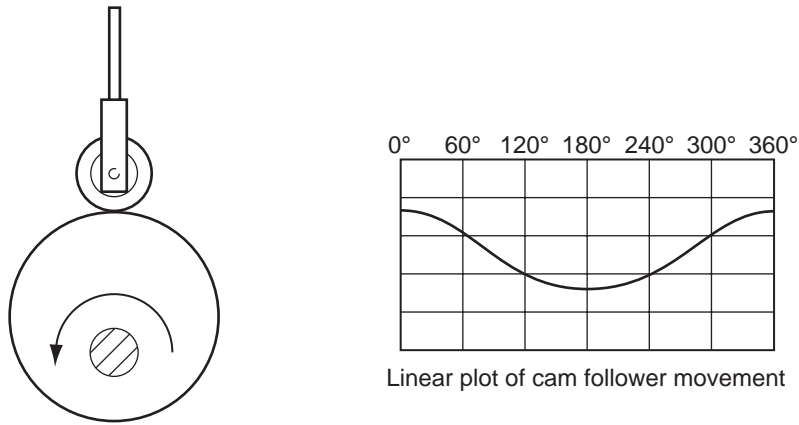

Fig. 3
- 7 Fig. 3 shows an eccentric cam and the linear plot of the follower for one complete revolution.